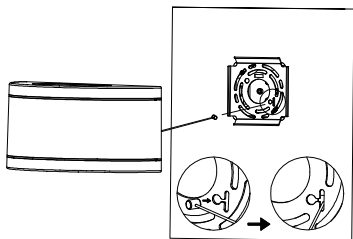

Fig 3
3. Attach the safety cable to the bracket to hold the fixture onto the wall. (Fig 3)